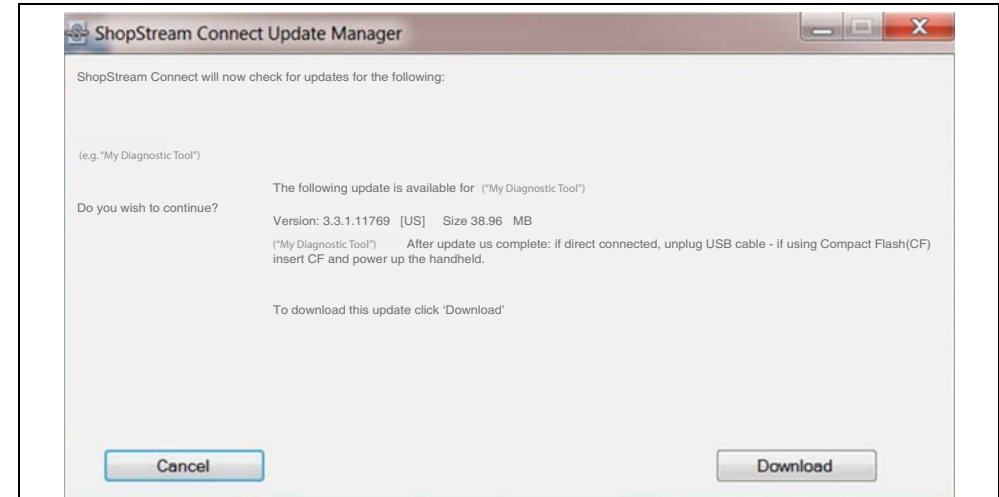

Figure 13-13
2. If service release updates are available, select **Next** to continue, then select **Download** and follow the on-screen instructions to complete the installation (*Figure 13-13*).